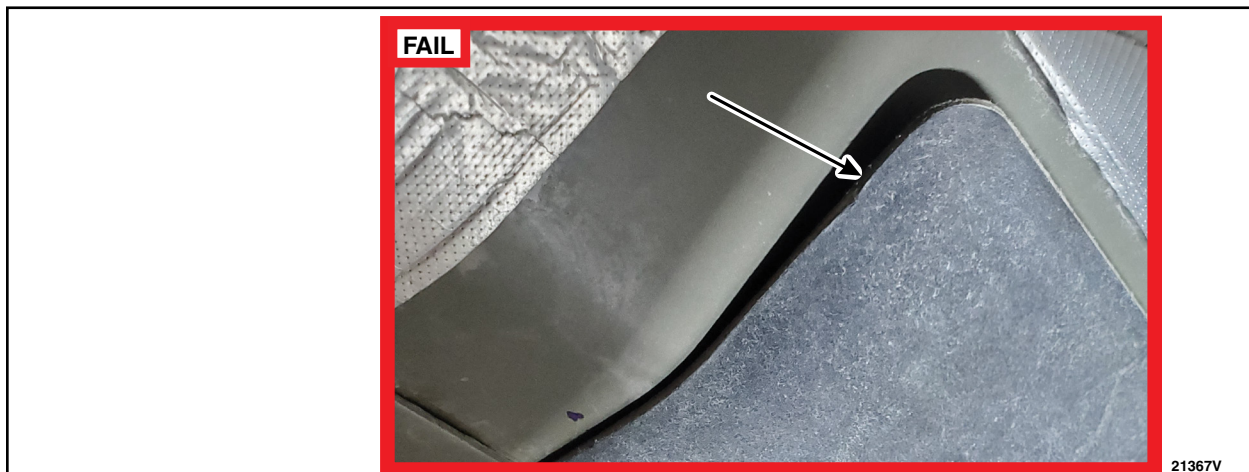

FIGURE 4
10. Inspect the driver side insulator for any edges hanging down or touching the fuel tank. Is the insulator hanging down or touching the fuel tank? See Figure 4.